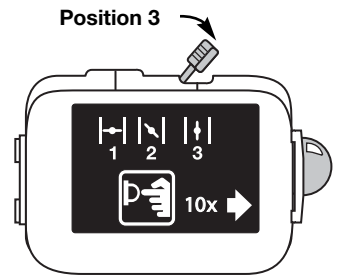

Fig. 15
10. Place the choke lever in **Position 3** (Fig. 15). The unit is ready for use.